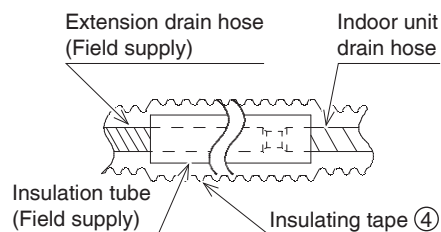

Fig. 25
- 3) When drain hose requires extension, obtain an extension hose commercially available. Be sure to thermally insulate the indoor section of the extension hose. (Refer to Fig. 25)